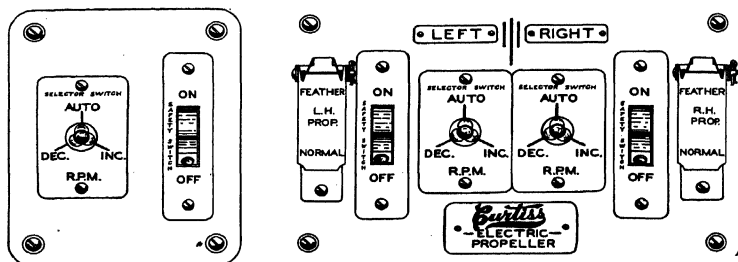

FIG. 69.—Switch panel for twin-engine cockpit.
**Cockpit Control Switches.** *Selector Switch* (Fig. 69).—The selector switch has four positions: (1) automatic, (2) off, (3) increase r.p.m., (4) decrease r.p.m. This switch selects the type of control that is desired, and provides selective fixed-pitch control. When the selector switch is placed in "Automatic," the propeller will provide automatic constant-speed control. Placed in the "Off" position, the propeller will operate as a fixed-pitch propeller. To adjust the blade angles manually, the selector switch